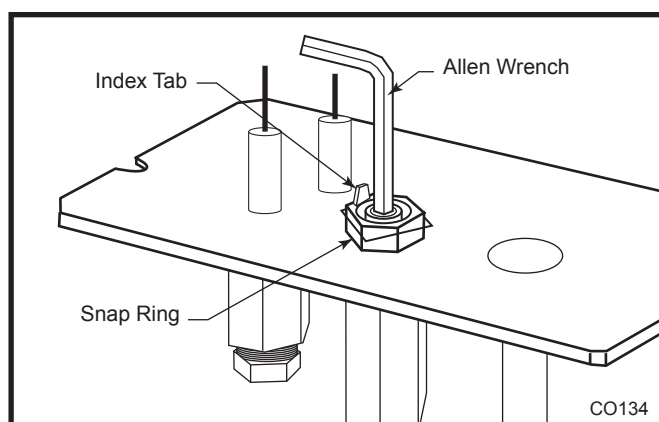

Fig. 55 Remove pilot orifice.
2. Remove pilot orifice with Allen wrench. (Fig. 55)